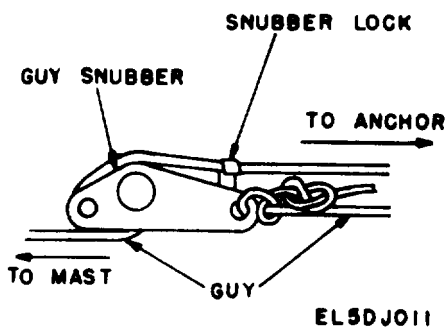

Figure 2-6. Secure guy snubber.
i. Pull the four side guy ropes, two upper and two lower, taut and secure them (fig. 2-6). The method for pulling guy lines taut is as follows:
- (3) Secure guy by looping guy under snubber (fig. 2-6).